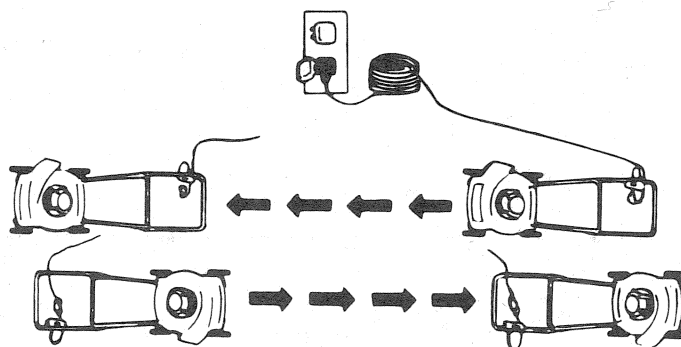
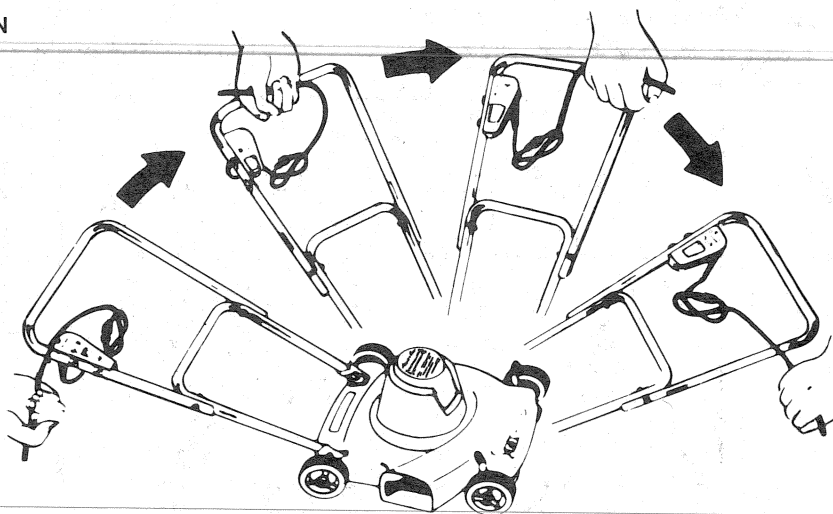

FIGURE 9
FIGURE 10
2. Place most of the extension cord close to the electrical outlet, out of the path of the mower (Figure 9). **CAUTION:** Do not plug extension cord into receptacle outlet while standing in water or when hands are wet.
3. Begin mowing in the area closest to the outlet and mow in a back and forth manner (Figure 9). When you reach the edge of the lawn, **pivot the mower on the rear wheels toward the cord.** At the same time, grasp the cord and flip the cord over the mower so that cord again lies on cut portion of lawn (Figure 10) This action at the end of each cut will keep the extension cord away from the path of the mower.